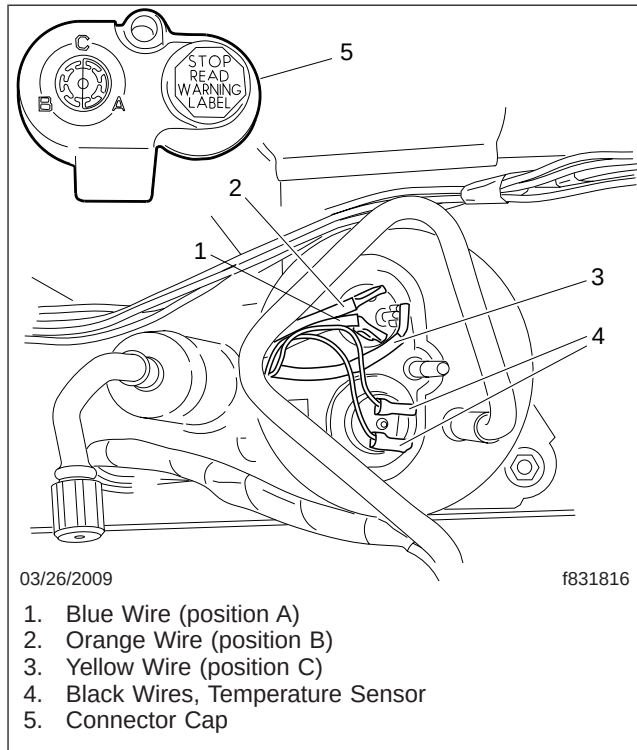

Fig. 7, Compressor Wire Connections
IMPORTANT: Make sure to note the positions of the wires to the compressor motor. Connecting them incorrectly will cause the compressor to malfunction. The wires to the temperature sensor can go either way. See Fig. 7 for wire positions.
- IMPORTANT: Make sure to note the positions of the wires to the compressor motor. Connecting them incorrectly will cause the compressor to malfunction. The wires to the temperature sensor can go either way. See Fig. 7 for wire positions.
19. Connect the wires from the controller to the compressor motor and temperature sensor. See Fig. 7. Install the cap.